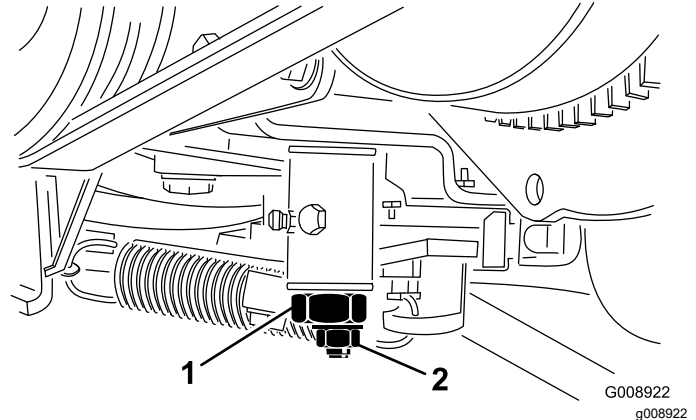

Figure 66
3. Loosen the locknut on the traction adjustment cam (Figure 66).